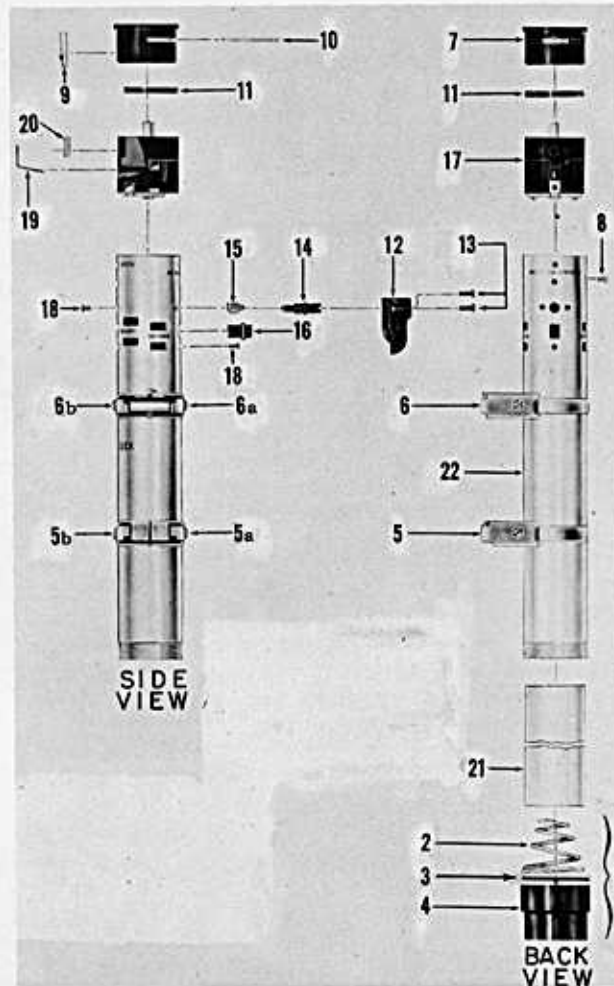
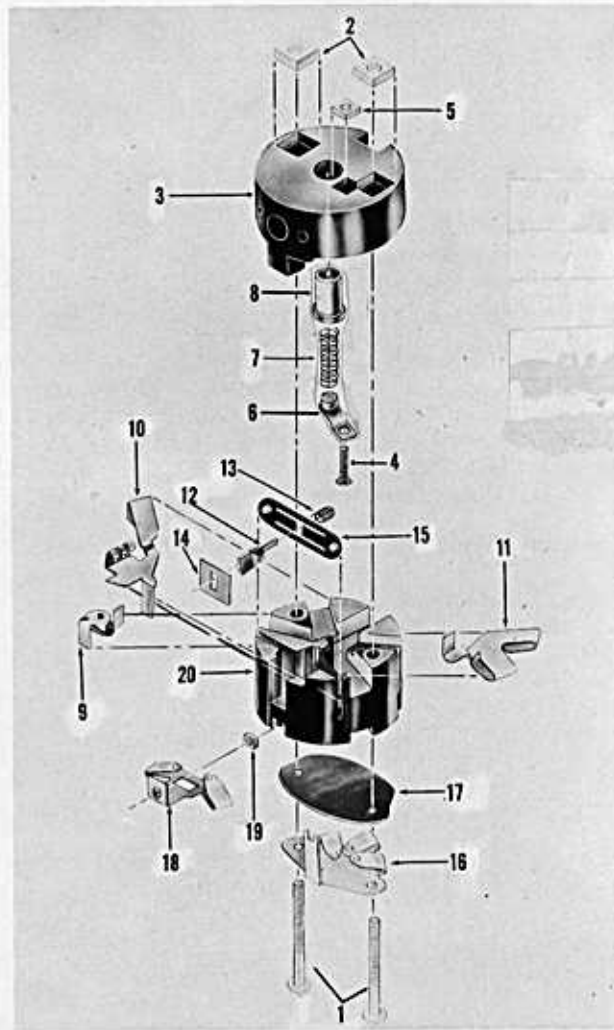

Figure 3. BATTERY CASE COMPLETE (GRAFLITE)
Figure 4. SWITCH AND OUTLET ASSEMBLY
- b. Ring (10, Fig. 3) should slide forward when button (5, Fig. 10) is pressed and eject flash lamp.
1. Graflite Battery Case (Figure 3)
a. When assembling contact (15) to switch (14), the open section of the contact should be positioned up and the white dot on the switch positioned to the upper left. Gently insert oriented parts, simultaneously pressing and turning them into round hole above button (16). Switch must be inserted to flange and must turn in a clockwise direction without fouling.
b. When replacing gasket (11), flat side should face front of case (front is marked Graflex).
c. When replacing ring (10) in receptacle (7), key of ring must protrude into recess that accommodates spring (9). Place spring (9) into its recess. Slide these oriented parts into case so spring faces front of case and stud on spring centers in lower of two holes in front of case.
2. Switch and Outlet Assembly (Figure 4)